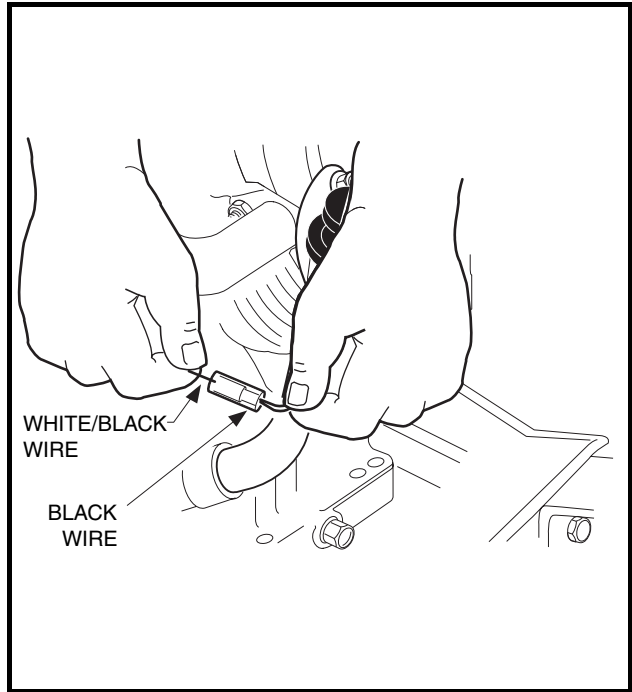

Figure 18-18 Ignition Kill Wire
- 4.10. Disconnect the engine kill switch wire (18-gauge white/black) from the bullet connector at the lower right front of the engine (**Figure 18-18, Page 18-9**).